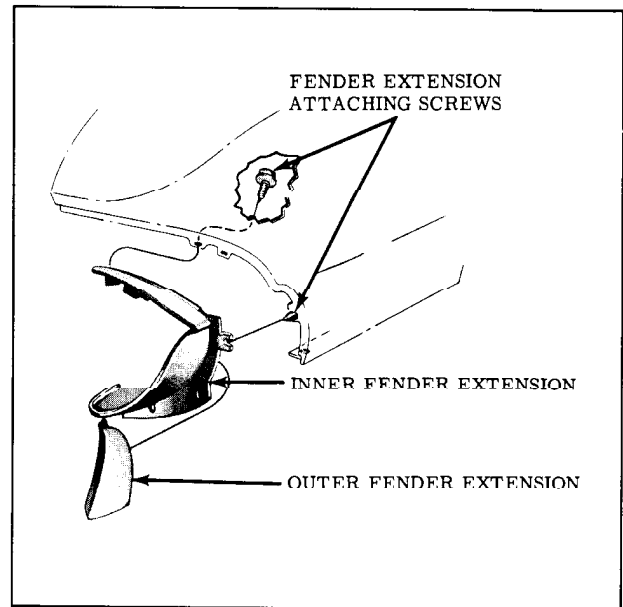

Fig. 11-10 Fender Extension
7. Remove the 2 fender extension to fender attaching screws. The lower fender extension screw is accessible from underneath the fender and it is behind the rubber side baffle to fender seal. (Fig. 11-10)
The lower screw is the stone shield to fender side attaching screw nearest the front of the car as shown in Fig. 11-10.